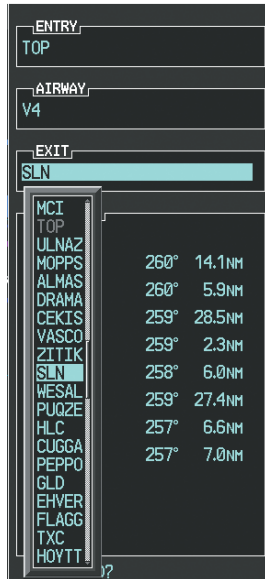

Figure 7-17 List of Available Exits for V4
- h) Press the **ENT** Key. The list of available exits for V4 is now displayed as in Figure 7-17.
- i) If necessary, turn either **FMS** Knob to select the desired exit. In this case Salina VOR (SLN) is selected as in Figure 7-17.